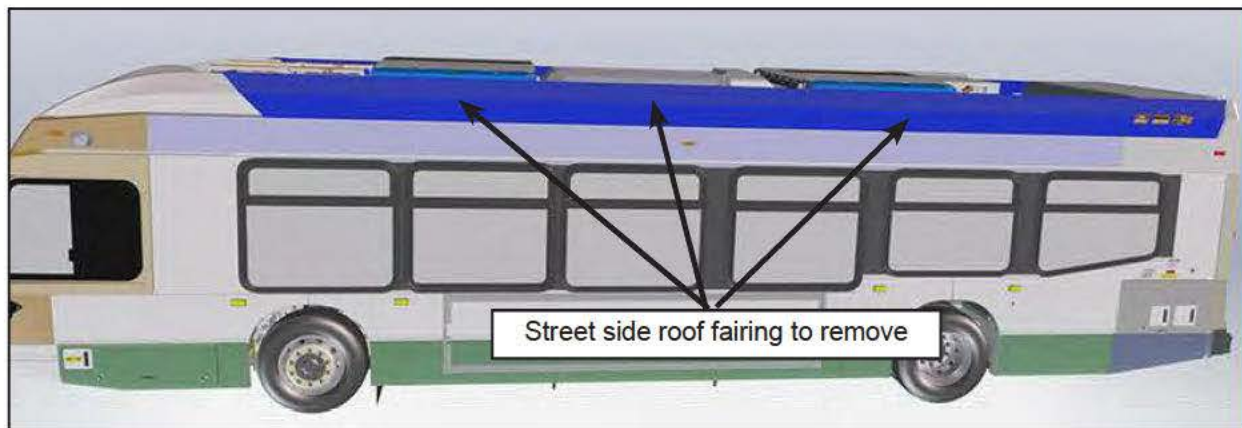

Figure 5 - Street Side Roof Fairing to Remove
- a. Remove the streetside roof fairing. See section **10-701: LFSE+ HVESS - UPPER REAR** and **10-705: LFSE+ HVESS - UPPER FRONT** for information regarding roof fairing removal. Retain hardware and fairings. See Figure 5.